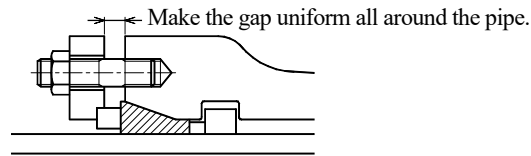

Figure 19 Tightening of nuts
(1) At first, tighten the nuts at the top and bottom, then secondly at the both sides of pipe.
(2) Tighten the nuts on the diagonal symmetric positions alternately to make the gap between the gland and socket end uniform all around the socket (see Figure 19).